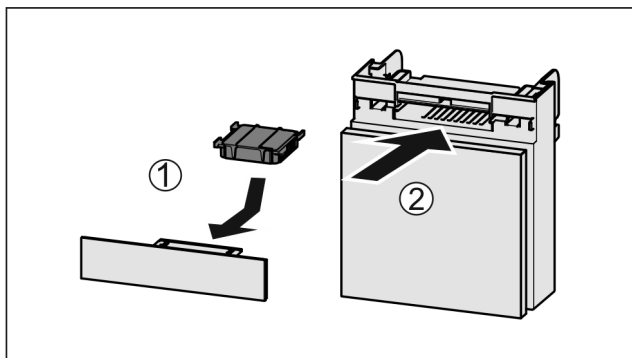

Fig. 56
- ▶ Insert the carbon filter as shown in the diagram Fig. 56 (1).
- ▶ Push the compartment in Fig. 56 (2).